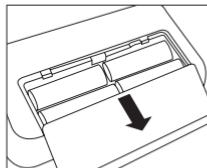

Fig. 1
- Open the battery cover on the bottom of the monitor (see Fig. 1). Insert the batteries (see Chapter 13 'Technical data'). Ensure correct polarity ('+' and '-') when inserting batteries. Close the battery lid. The monitor switches automatically to the date/time function, and when used for the first time the display shows the number "3 1" for the day and "12" for the month. The date set is thus the 31st December. Set date and time as described below.